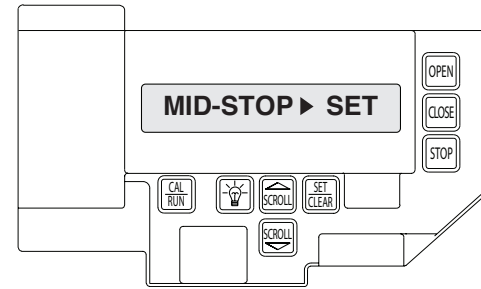

Figure 15
- 3) Press SCROLL  until display reads "MID-STOP >CLR" Figure 15.